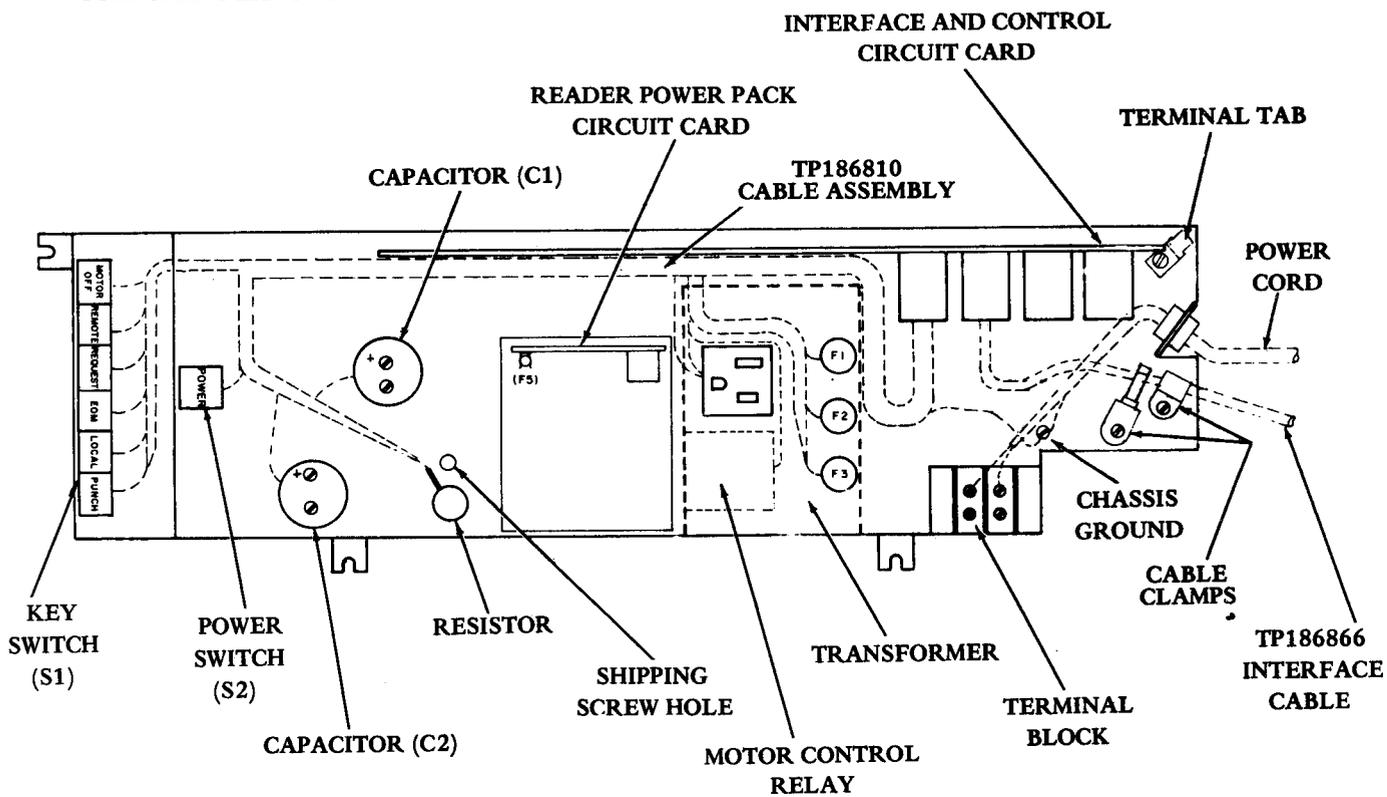

Figure 15 - I/O 33 Control Unit Removed From Set and Cable Diagram
3.24 The I/O control unit (Figure 15) provides the electrical interconnection of the various terminal components, the interface, and control circuits. The unit consists of a circuit board, power supply, and operator control switches.